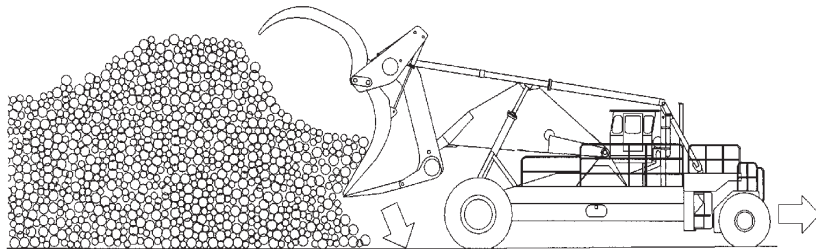

Fig. 5-17
- Continue backing and lowering until all the logs are out of the carriage. See Fig. 5-17.